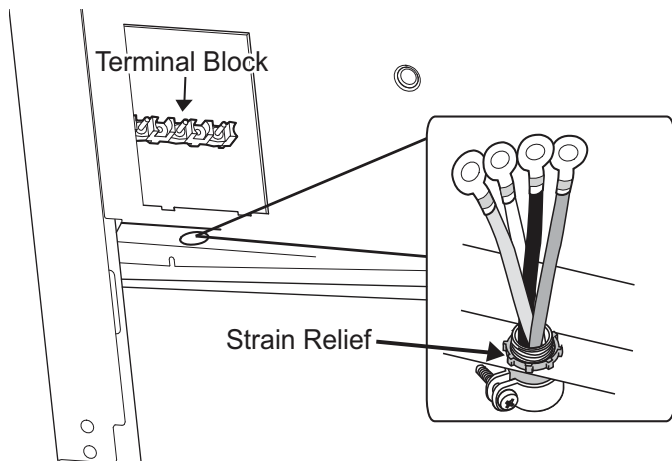

Figure 17: Strain Relief Location
Locate the terminal block on the rear of the unit and remove cover (refer to *Figure 17*). The conduit must be installed to the terminal block using an approved conduit connector. The free end of the conduit must be connected to a terminal block provided in the electrical supply zone, as shown in *Figure 5 on page 11*.
Mount a strain relief (not provided) into the 1" (25.4 mm) diameter hole located below the terminal block (see *Figure 17*). Wiring for the unit is to be brought into the terminal block through the conduit and through the strain relief. The ends of the wiring must have $\frac{1}{4}$ " (6 mm) faston closed-loop lugs attached, preferably soldered in place. Make the connections to the terminal block provided.
1. Locate the terminal block on the rear of the unit and remove cover (see *Figure 17*).